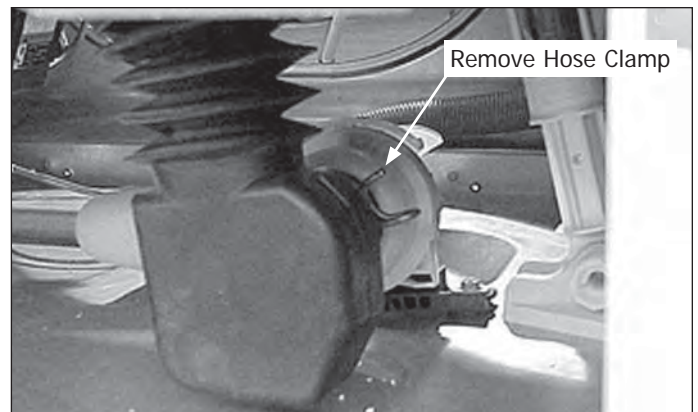

Figure 4-71.
2. Disconnect the inlet sump from the pump. (See Figure 4-71)